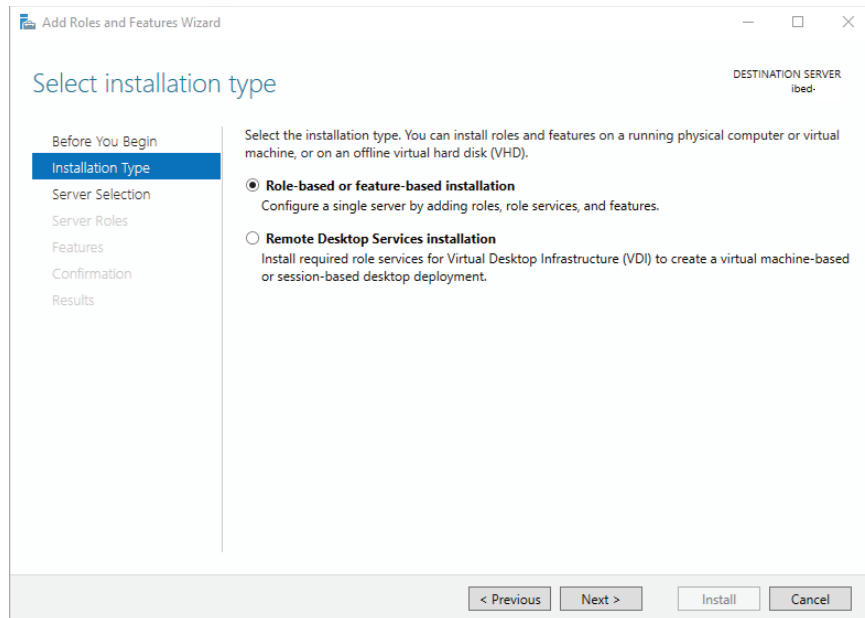

Figure 15 – Installation Type
16. In the **Select installation type**, select **Role-based or feature-based installation**. Select **Next** (Figure 15).